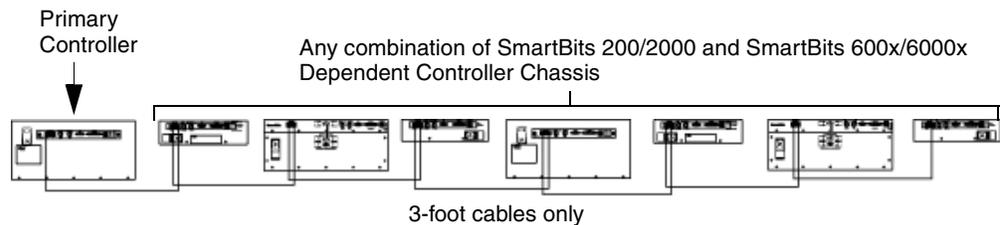

Figure A-3. Example of a Multiple Chassis Expansion Connection
An *expansion* connection involves any combination of SmartBits chassis connected horizontally, via the RJ-45 expansion connectors using a straight-through Ethernet LAN cable. You may connect up to eight chassis (one *primary controller* and seven *dependent controller* chassis). This allows for multiple chassis test synchronization with one clock source (*primary controller*), which supplies the synchronization in the system. *Figure A-3* shows an example of an *expansion* connection.
- 2 Connect the remaining chassis in your system, (Category 5 UTP cables) not to exceed a total of eight chassis (one *primary controller* and seven *dependent controllers*). For an example, refer to Figure A-3 on page 89.